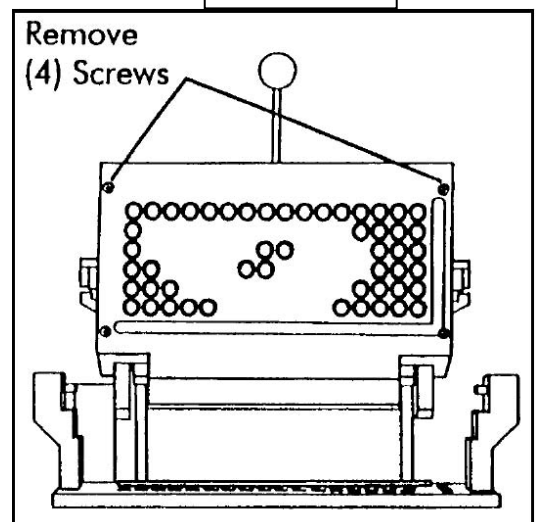

Fig. 20
a) Unclamp the Head, and remove the (4) Screws on the Head Screen Plate. Then remove the plate. **(See figure 20)**
b) The removal of the Head Screen Plate will reveal the underside of Locking Plate Assembly. Notice the stepped holes of the Spring Adjusting Screws. Two of these screws will be on the right side plate and (2) on the left. Back out the Spring Adjusting Screw just beyond the step in the hole.